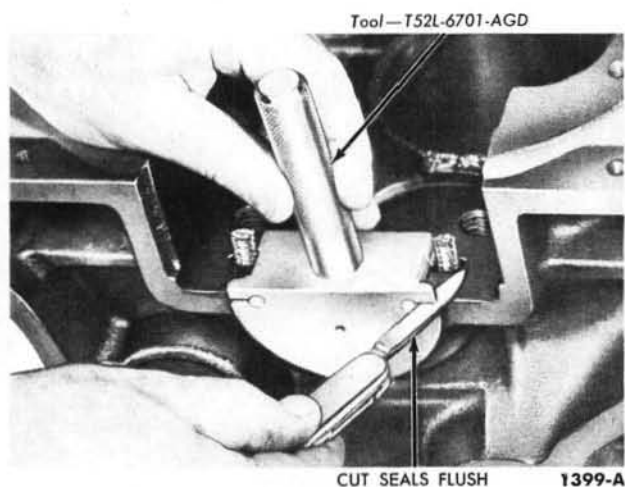
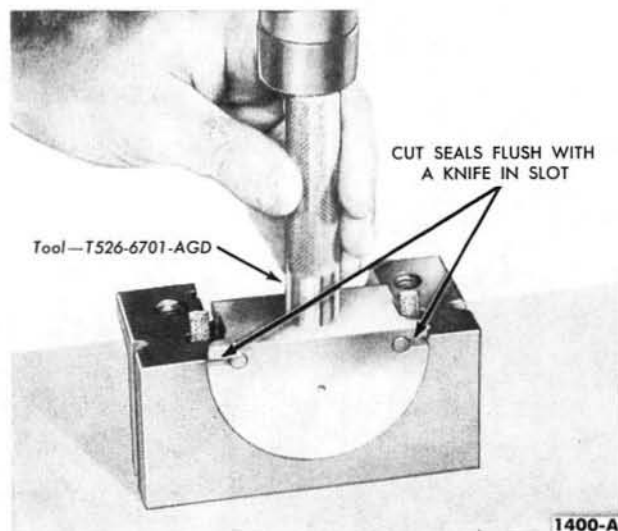

FIG. 34—Rear Oil Seal To Block Installation
FIG. 35—Rear Oil Seal To Rear Bearing Cap Installation
1. Be sure the bearings, crankshaft journals, and the rear journal oil seal grooves are clean. Install a new rear oil seal in the cylinder block (Fig. 34), and in the rear main bearing cap (Fig. 35). After installation, cut the ends of the seals flush.